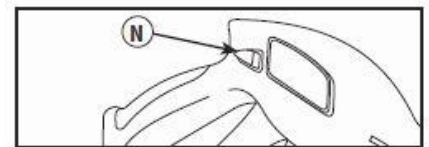

Fig. 9
3. Point gun in a safe direction and press red safety button (N) on spray gun and pull trigger until water comes out in a steady stream. (See Fig. 9)